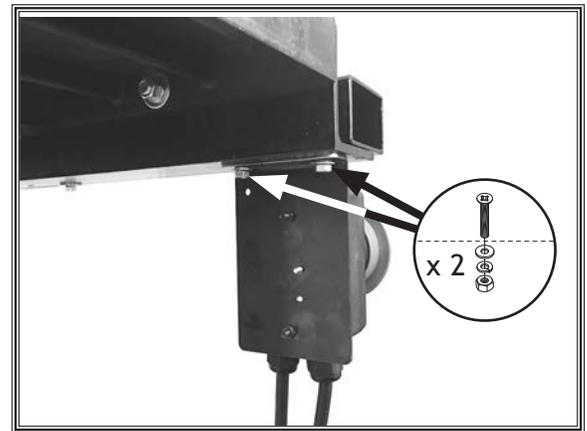

Figure 25. Switch box installed.
16. Attach switch to bottom left-hand side of front rail using (2) M6-1 x 15 flat head screws, 6mm lock washers, 6mm flat washers, and M6-1 hex nuts (see **Figure 25**).